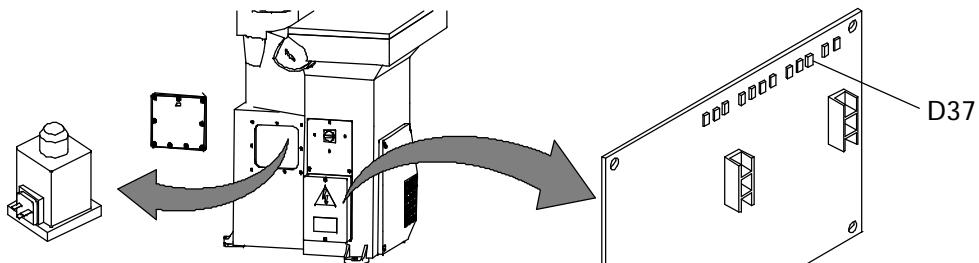

Fig. 23
- b) If the leds D25 and D28 light up regularly, check the lighting up of the led D37 on the printed circuit board (code 02E03947, tav. 7). If the led D37 lights up regularly, check the wiring between the electromagnet and the printed circuit board as well as the electromagnet (02001746, tav. 4-5-6). Check the correct voltage of 40/45V arrives at the electromagnet (Fig. 23).